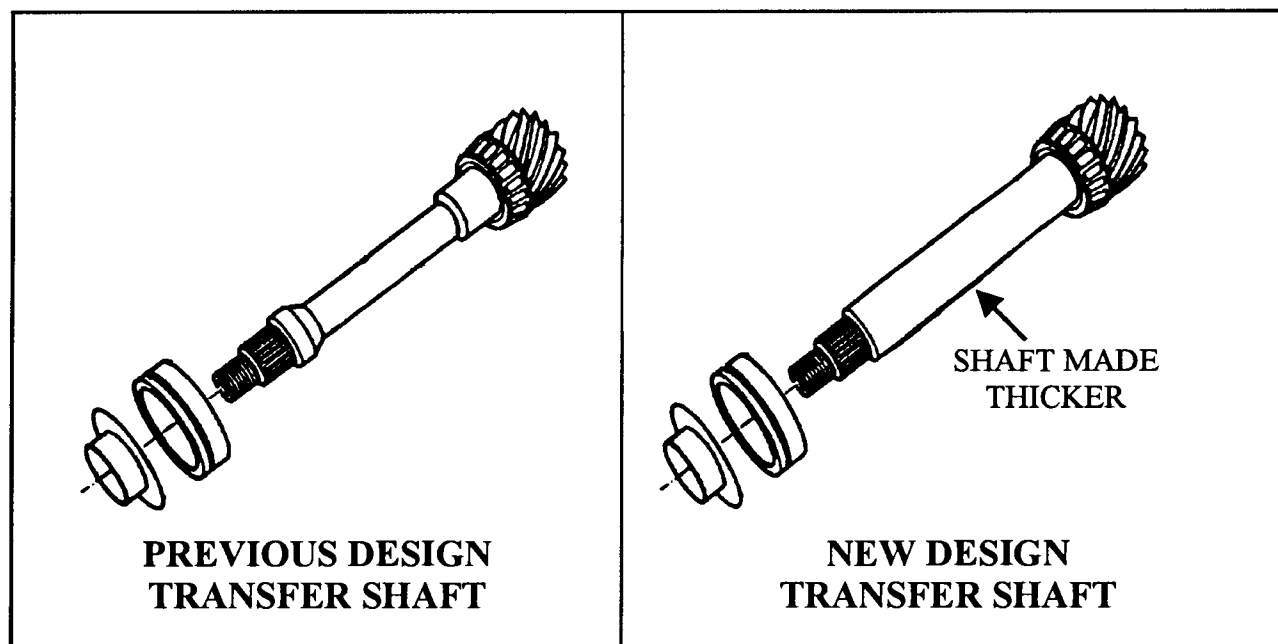

Figure 28
CHANGE: A thicker transfer shaft was made as a running change in 1990 and continues through to current production (See Figure 28).
- (1) **TRANSFER SHAFT** - The transfer shaft between the transfer gear end and the threaded end of the shaft increased in diameter to accommodate torque transfer (See Figure 28).